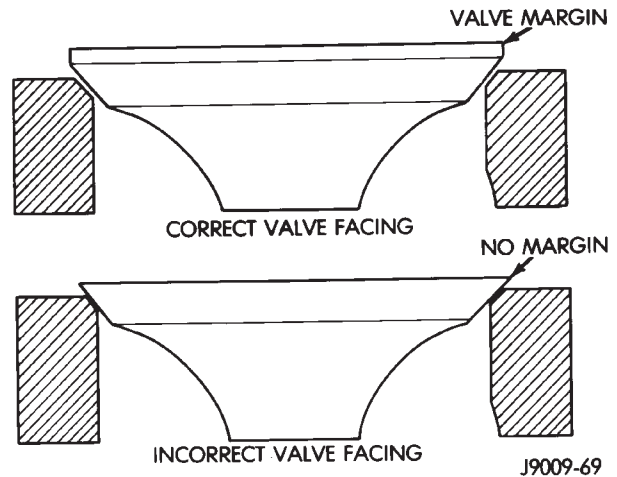

Fig. 59 Valve Facing Margin
(1) Use a valve refacing machine to reface the intake and exhaust valves to the specified angle.
(2) After refacing, a margin of at least 0.787 mm (0.031 inch) must remain (Fig. 59). If the margin is less than 0.787 mm (0.031 inch), the valve must be replaced.